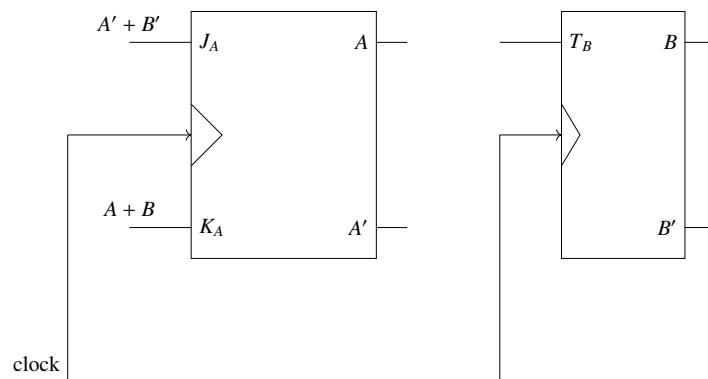

Fig. 5.13
13. Given below in Fig. 5.13 is the diagram of a synchronous sequential circuit with one  $J-K$  flip-flop and one  $T$  flip-flop with their outputs denoted as  $A$  and  $B$  respectively, with  $J_A = (A' + B')$ ,  $K_A = (A + B)$  and  $T_B = A$ . Starting from the initial state ( $AB = 00$ ), the sequence of states ( $AB$ ) visited by the circuit is (GATE IN 2021)